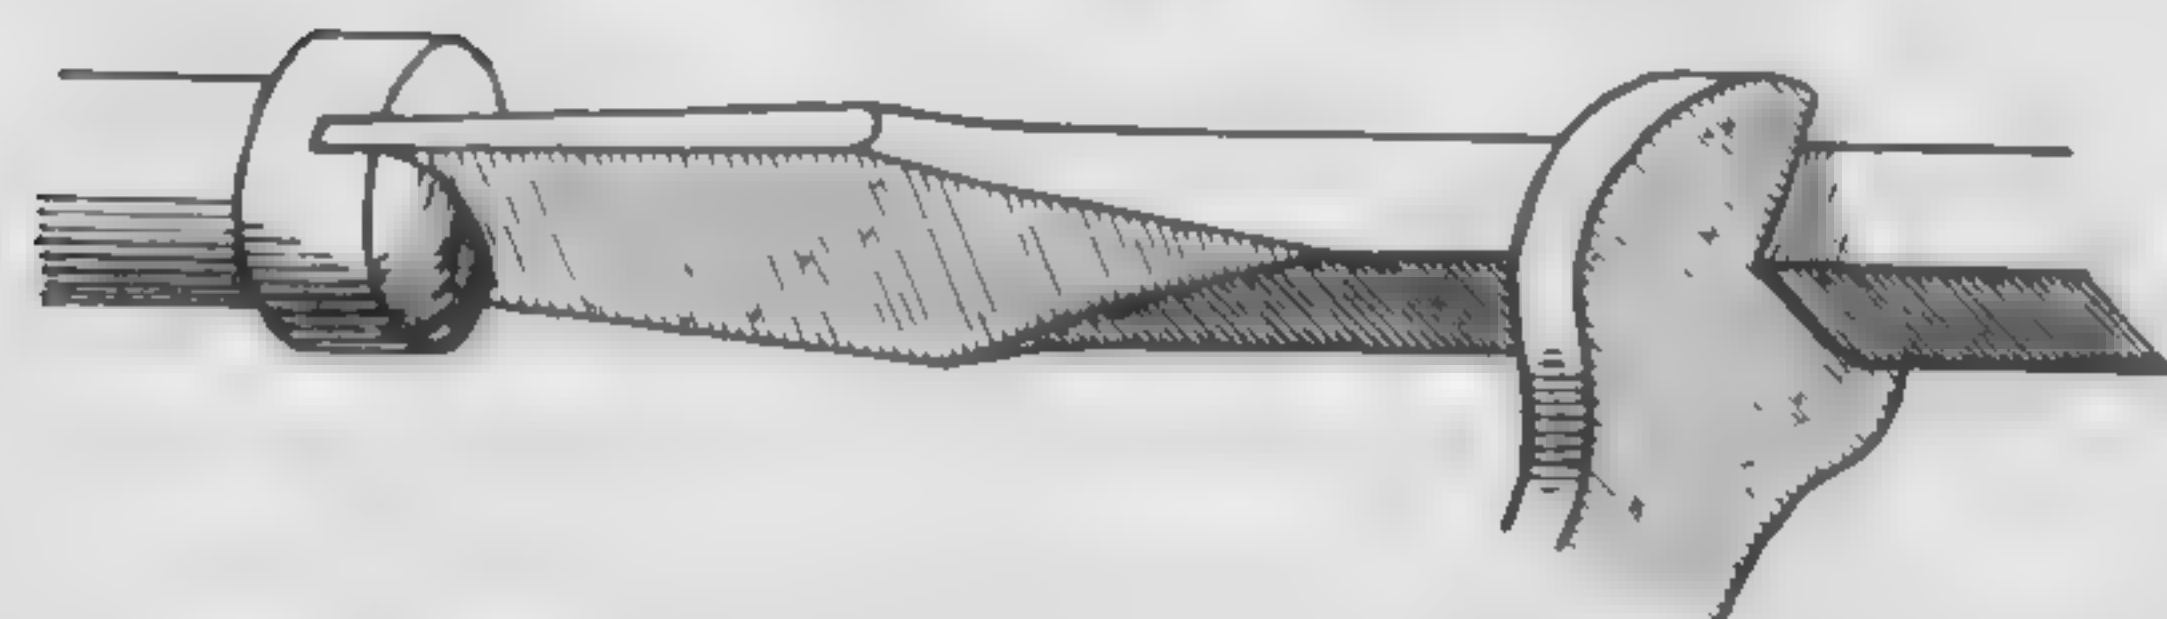

Fig. 7. Turning a Square Shank Screw Driver with an Open End Wrench
3. Tightening large screws. Use a square-shanked screw driver, and with a wrench that fits the square shank, turn the screw driver. See Fig. 7. Pressure must be kept on the handle to keep the tip in the slot.